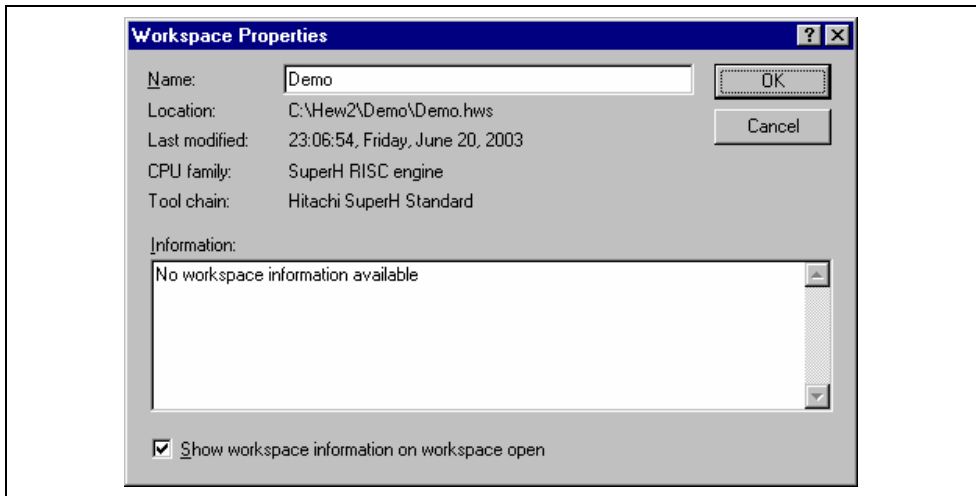

Figure 6.10: Workspace Properties Dialog
2. Click the right mouse button to invoke the pop-up menu and then select the "Properties" option. The dialog shown in figure 6.10 will be displayed.